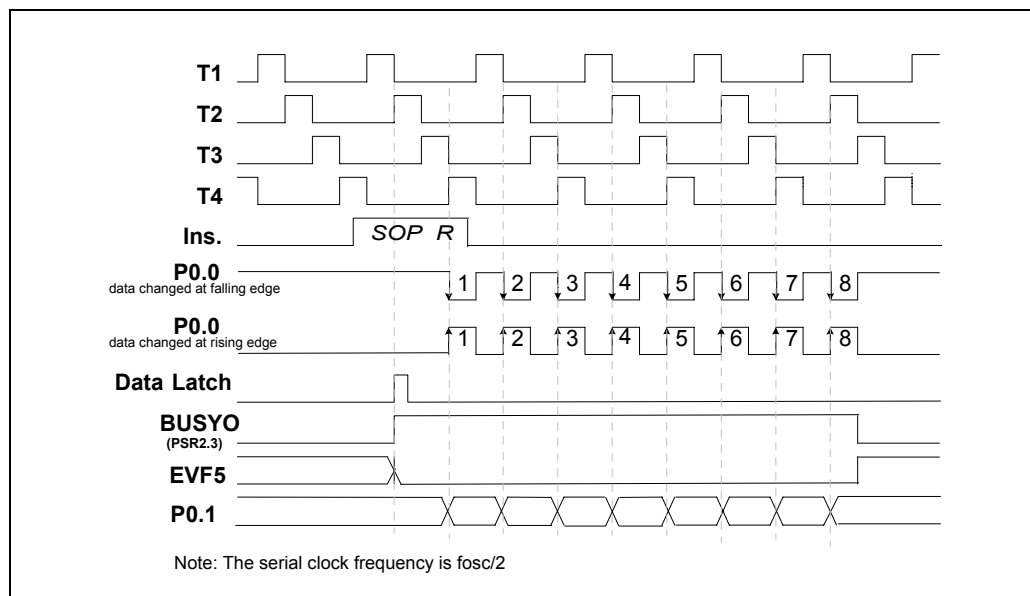

Figure 5-13 Timing of the Serial Output Function (SOP R)
(2) When the **SOP R** instruction is executed, the data will be loaded to the serial output buffer (SOB) from ACC and the RAM, the low nibble data of SOB is from ACC register and the high nibble data is from RAM, and bit 3 of port status register 2 (PSR2) will be set to "1" ($BUSY_O = 1$). Then the P0.0 pin will send out 8 clocks or accept 8 clocks from external device and the data in SOB will be sent out at the rising or falling edge of the P0.1 pin. After the 8 clocks have been sent, $BUSY_O$ will be reset to "0" and EVF.5 will be set to "1." At this time, if IEF.5 has been set ($IEF.5 = 1$), an interrupt is executed; if HEF.5 has been set ($HEF.5 = 1$), the hold state is terminated. Users can check the status of PSR2.3 ($BUSY_O$) to know whether the serial output process is completed or not. If a serial output process is not completed, but the SOP R instruction is executed again, the data will be lost. The timing is shown in Figure 5-13.